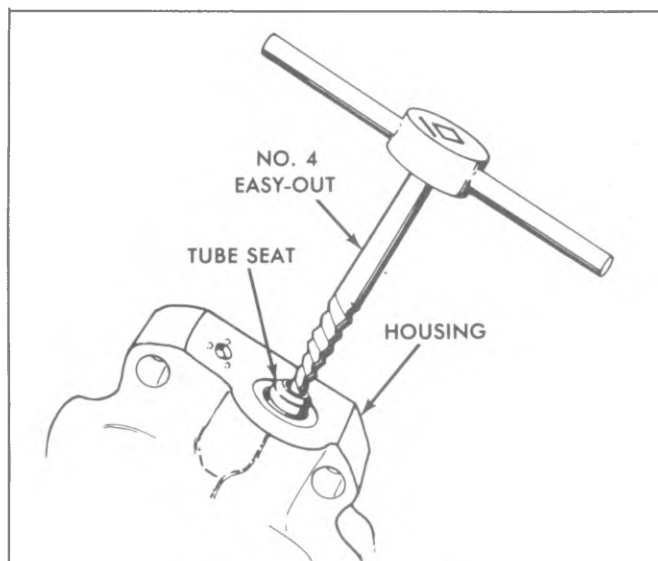

Fig. 5-60—Removing Tube Seat
4. Remove tube seat using No. 4 easy-out as shown in Figure 5-60.